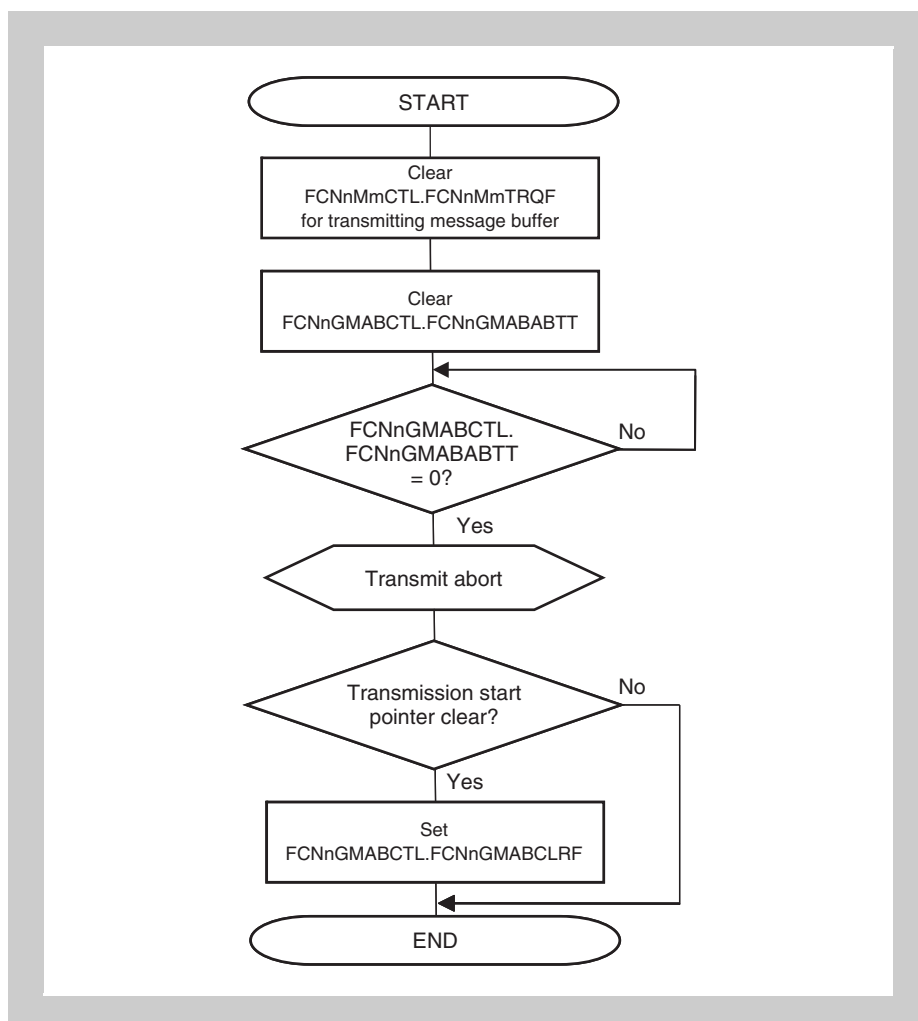

Figure 24-27 ABT transmission request abort processing (in normal operation mode with ABT) (2)
Figure 24-27 “ABT transmission request abort processing (in normal operation mode with ABT) (2)” shows the processing to not skip resumption of transmitting a message that was stopped when transmission of an ABT message buffer was aborted.